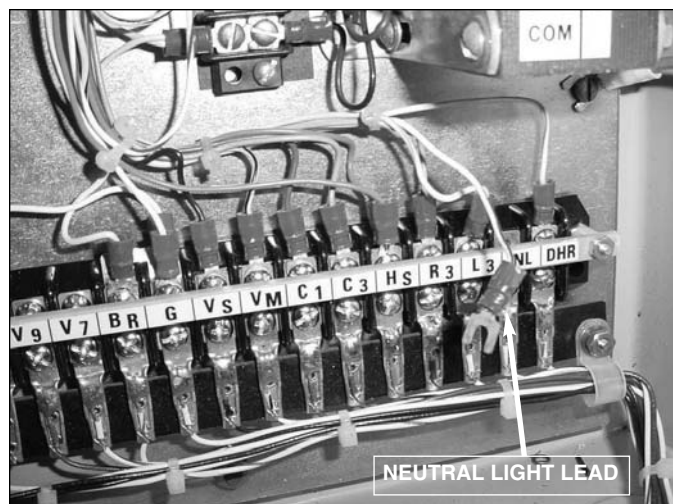

Figure 5.
5. Using a standard screwdriver remove the White/Red Neutral Light lead from TB2-NL (See Figure 5).